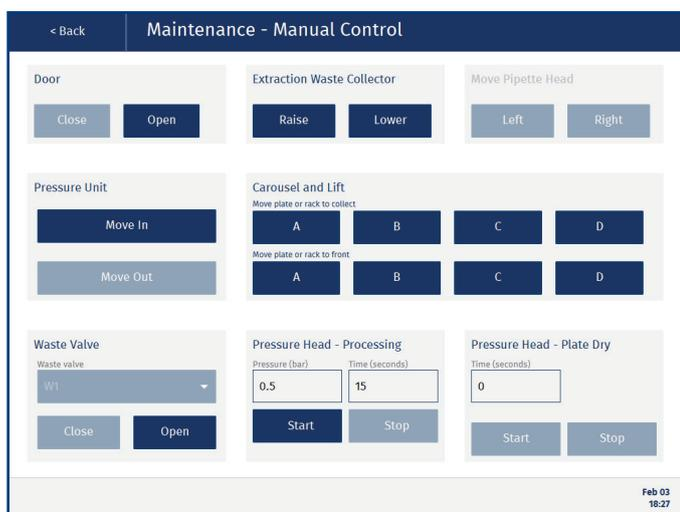

Figure 6. The Manual Control view.
- d. In the **Pressure Head - Processing** field, enter 0.5 bar in the **Pressure** text box and 15 seconds in the **Time** text box; see Figure 6.